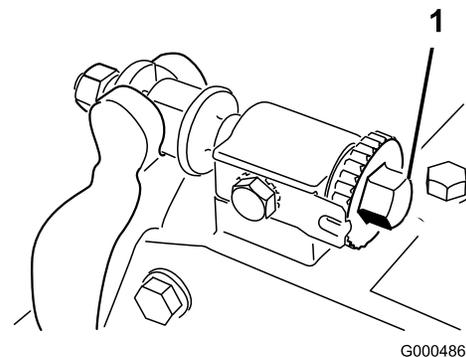
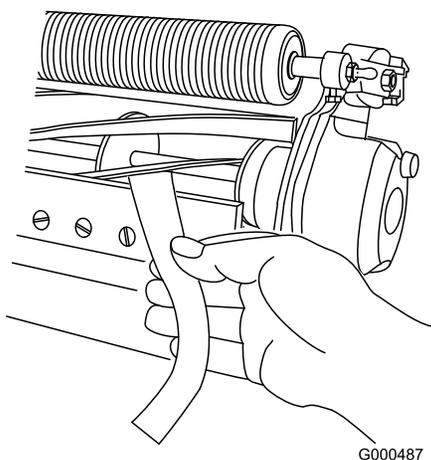

Figure 58
Figure 59
2. Make sure reel contact is removed by turning bedbar adjusting screws counterclockwise (Figure 58).
4. At one end of reel, insert a long strip of newspaper between reel and bedknife (Figure 59). While slowly rotating reel forward, turn bedbar adjusting screw clockwise (on same end of reel) (Figure 58), one click at a time, until paper is pinched lightly, when inserted
6. After adjustment is accomplished, check to see if reel can pinch paper when inserted from the front and cut paper when inserted at a right angle to the bedknife (Figure 59). It should be possible to cut paper with minimum contact between the bedknife and the reel blades. Should excessive reel drag be evident it will be either necessary to backlap or regrind the cutting unit to achieve the sharp edges needed for precision cutting (see Toro reel sharpening manual).